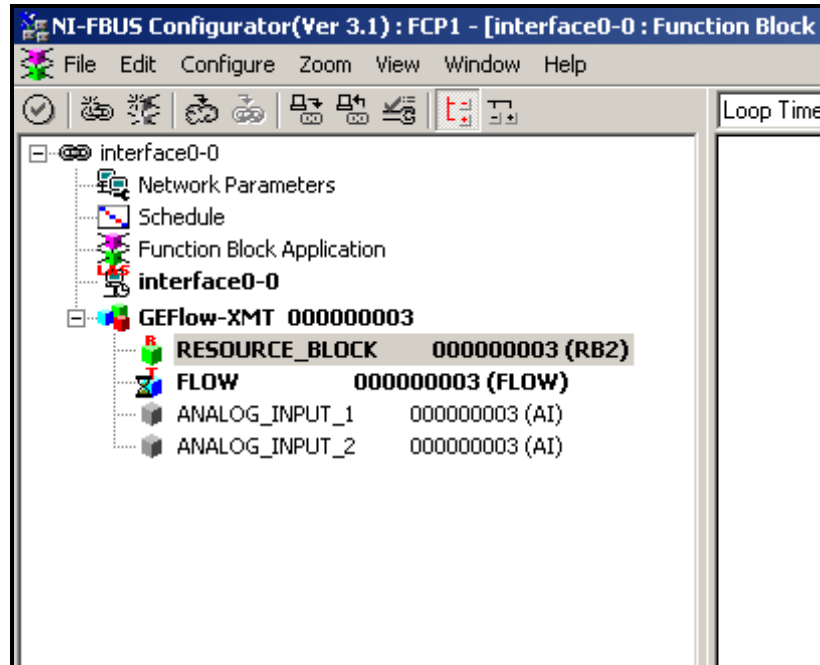

Figure 48: Configuration Utility Setup Example
Figure 48 shows the Configuration Utility with a flowmeter on the network (GE Flow-XMT).
1. Double click on the AI block for which you wish to set the units (ANALOG\_INPUT\_1 or ANALOG\_INPUT\_2 in the tree under GEFlow-XMT; see Figure 48 on page 62).
1. Double click on the FLOW transducer block (in the tree under GEFlow-XMT; see Figure 48 on page 62).